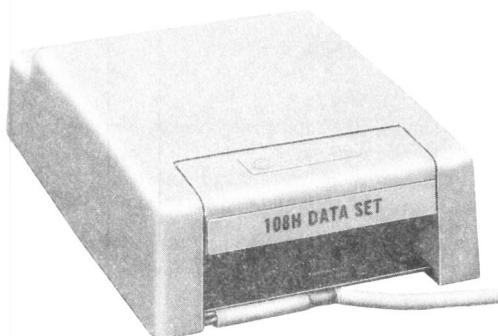

Fig. 1—Data Set 108H (Similar to Data Set 108J)
1.01 This section contains information concerning the installation and connection of data sets (DSs) 108H and J (Fig. 1).